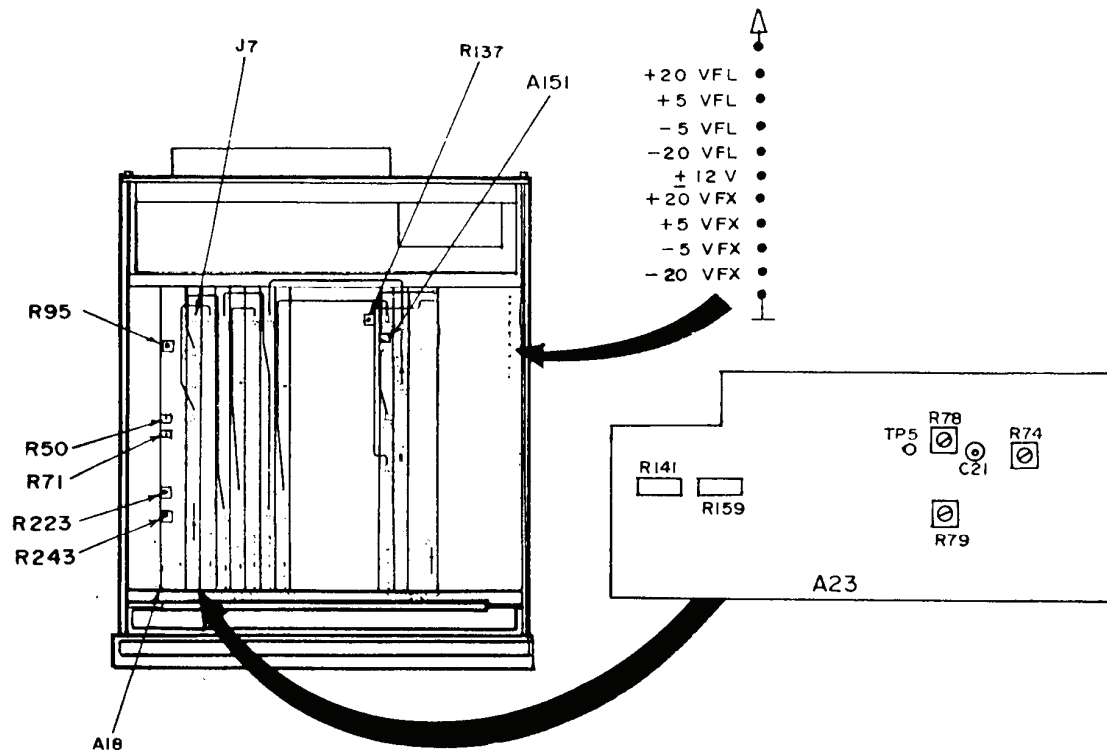

Figure 1. Test instrument - adjustment locations.
(1) Press **ON/OFF** pushbutton to **OFF** position.
(2) Remove A23 board (fig. 1) from TI and reconnect, using extender board.
- (3) Connect multimeter negative terminal to ground and positive terminal to TP5 (fig. 1).
- (4) Press **ON/OFF** pushbutton to **ON**.
- (5) Press pushbuttons and enter data as listed in (a) through (c) below:
- (6) Adjust R141 (fig. 1) for a -5 V \pm 20 mV indication on multimeter (R).
- (7) Press **PERIOD** pushbutton and enter 99.9 ns. Adjust R159 (fig. 1) for a -500 mV \pm 2 mV indication on multimeter.
- (8) Repeat (5), (6), and (7) above until voltages are within tolerance (R).
- (9) Disconnect cable A23 J7 (fig. 1) and connect frequency counter to J7 using cable #1.
- (10) Press **PERIOD** pushbutton and enter 999 ns. Adjust R141 (fig. 1) for a 999 ns \pm 3 ns indication on frequency counter (R).
- (11) Press **PERIOD** pushbutton and enter 100 ns. Adjust R79 (fig. 1) for a 99.5 ns \pm 0.3 ns indication on frequency counter (R).
- (12) Repeat (10) and (11) above until periods are within tolerance.
- (13) Press **PERIOD** pushbutton and enter 99.9 ns. Adjust C21 (fig. 1) for a 99.9 ns \pm 0.3 ns indication on frequency counter (R).
- (14) Press **PERIOD** pushbutton and enter 20 ns. Adjust R78 (fig. 1) for a 20 ns \pm 0.1 ns indication on frequency counter (R). Repeat (13) above.
- (15) Press **PERIOD** pushbutton and enter 20 ns. Record frequency counter indication.
- (16) Press **PERIOD** pushbutton and enter 35 ns. Record frequency counter indication.
- (17) Calculate relative error of values recorded in (15) and (16) above.
- (18) If error at 20 ns is higher, press **PERIOD** pushbutton and enter 20 ns. Adjust R78 for a 20 ns \pm 0.2 ns indication on frequency counter (R).
- (19) If error at 35 ns is higher, press **PERIOD** pushbutton and enter 35 ns. Adjust R74 (fig. 1) for a 35 ns \pm 0.3 ns indication on frequency counter (R).
- (20) Repeat (15) through (19) until period at 20 and 35 ns are within \pm 1.5 percent of setting.
- (21) Press **PERIOD** pushbutton and enter 99.9 ns. Adjust C21 for a 99.9 ns \pm 0.3 ns indication on frequency counter (R).
- (22) Press **ON/OFF** pushbutton to **OFF**.
- (23) Remove extender board and reconnect A23 board to TI.
- (24) Replace TI top cover. Press **ON/OFF** pushbutton to **ON** and allow TI to warm-up for 20 minutes. Repeat 8 a above. It may be necessary to repeat this adjustment procedure.